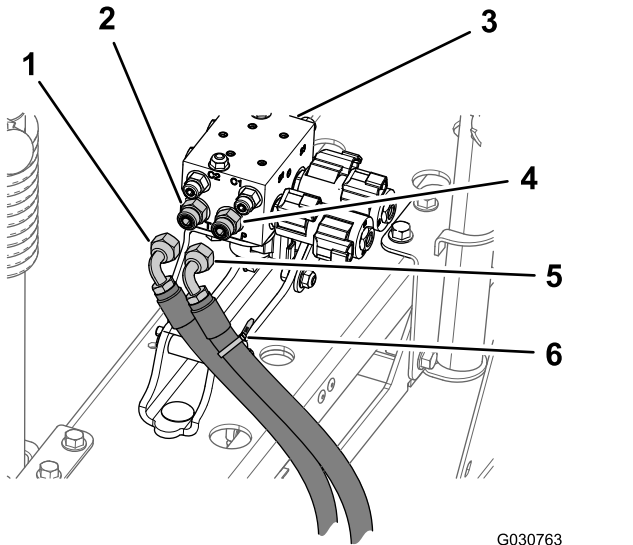

Figure 75
1. At port P of the boom-lift manifold, mark the pressure hydraulic hose with a cable tie (Figure 75).
2. Disconnect hydraulic pressure and return hoses from the boom-lift manifold (Figure 75).